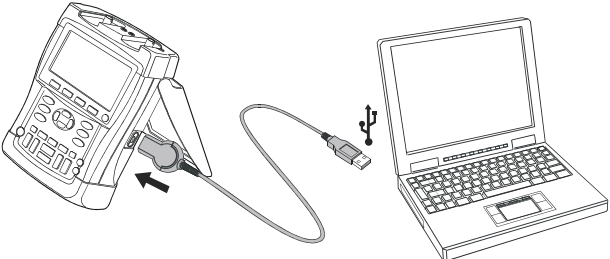

Figure 35. Connecting a Computer
- Use the Optically Isolated Adapter/Cable (USB; OC4USB; RS-232: PM9080) to connect a computer to the OPTICAL PORT of the test tool. (See Figure 35.)